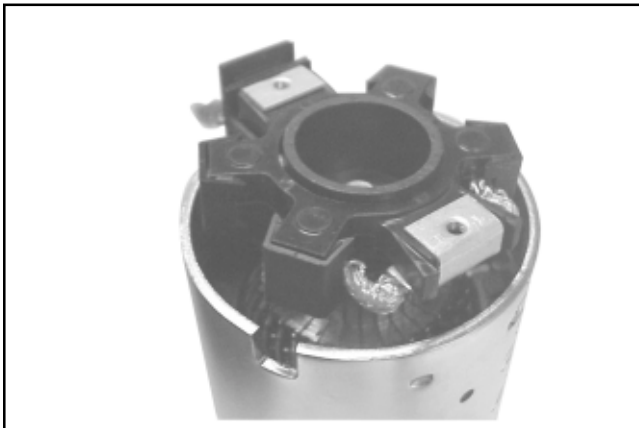

Figure 8-63. Installing Brush Holder Assembly with Supplied Tube.
- a. Hold the starter assembly vertically on the end housing, and carefully position the assembled brush holder assembly, with the supplied protective tube, against the end of the commutator/armature. The mounting screw holes in the metal clips must be "up/out." Slide the brush holder assembly down into place around the commutator, and install the positive (+) brush lead grommet in the cutout of the frame. See Figure 8-63. The protective tube may be saved and used for future servicing.